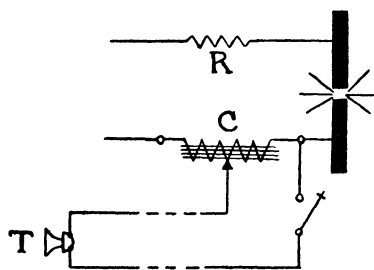

FIG. 55.
**The Talking Arc Light.**—If a source of direct current is available so that a carbon arc light can be maintained the apparatus for the talking arc may be arranged as shown in Fig. 55. If possible a hand feed arc lamp should be provided for the carbons, but if this is impossible some other